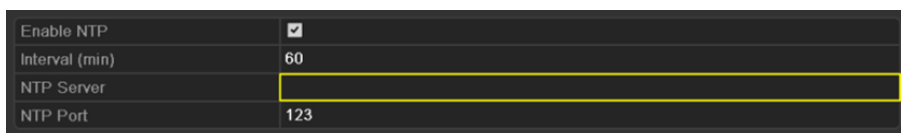

Figure 9. 14 NTP Settings Interface
2. Select the **NTP** tab to enter the NTP Settings interface, as shown in Figure 9. 14.